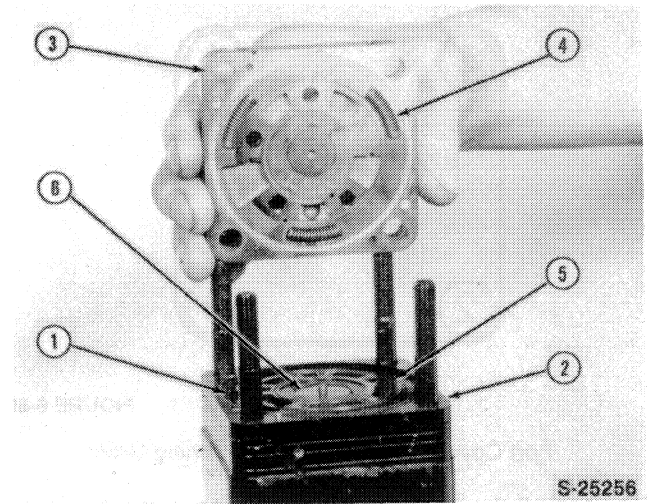

FIGURE 6-67
31. Apply a few drops of oil to the valve plate, 5. Align the grooves on the side of the port manifold with the grooves on the side of the isolation manifold and assemble the port manifold with the springs toward the valve plate, 5. Be careful not to pinch a spring during installation. The two alignment pins in the valve plate will engage the holes in the port manifold. The pin on the hex drive assembly, 6, must engage the center hole in the port manifold. See Figure 6-67.